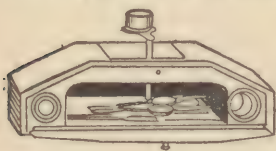

FIG. 30.—A SIMPLE DIS-
as shown at *A* and *B* in figure 24; (2) a pair of small, sharp, pointed scissors; (3) a pair of forceps, or small tweezers; (4) a section knife; and (5) a dissecting microscope. This outfit is shown in Figure 30 and can be bought complete for about \$5. You can make a dissecting microscope of a cigar box or other thin wood, and mount a magnifier on top of it, but if you intend to do really good work you had better buy one ready to use.